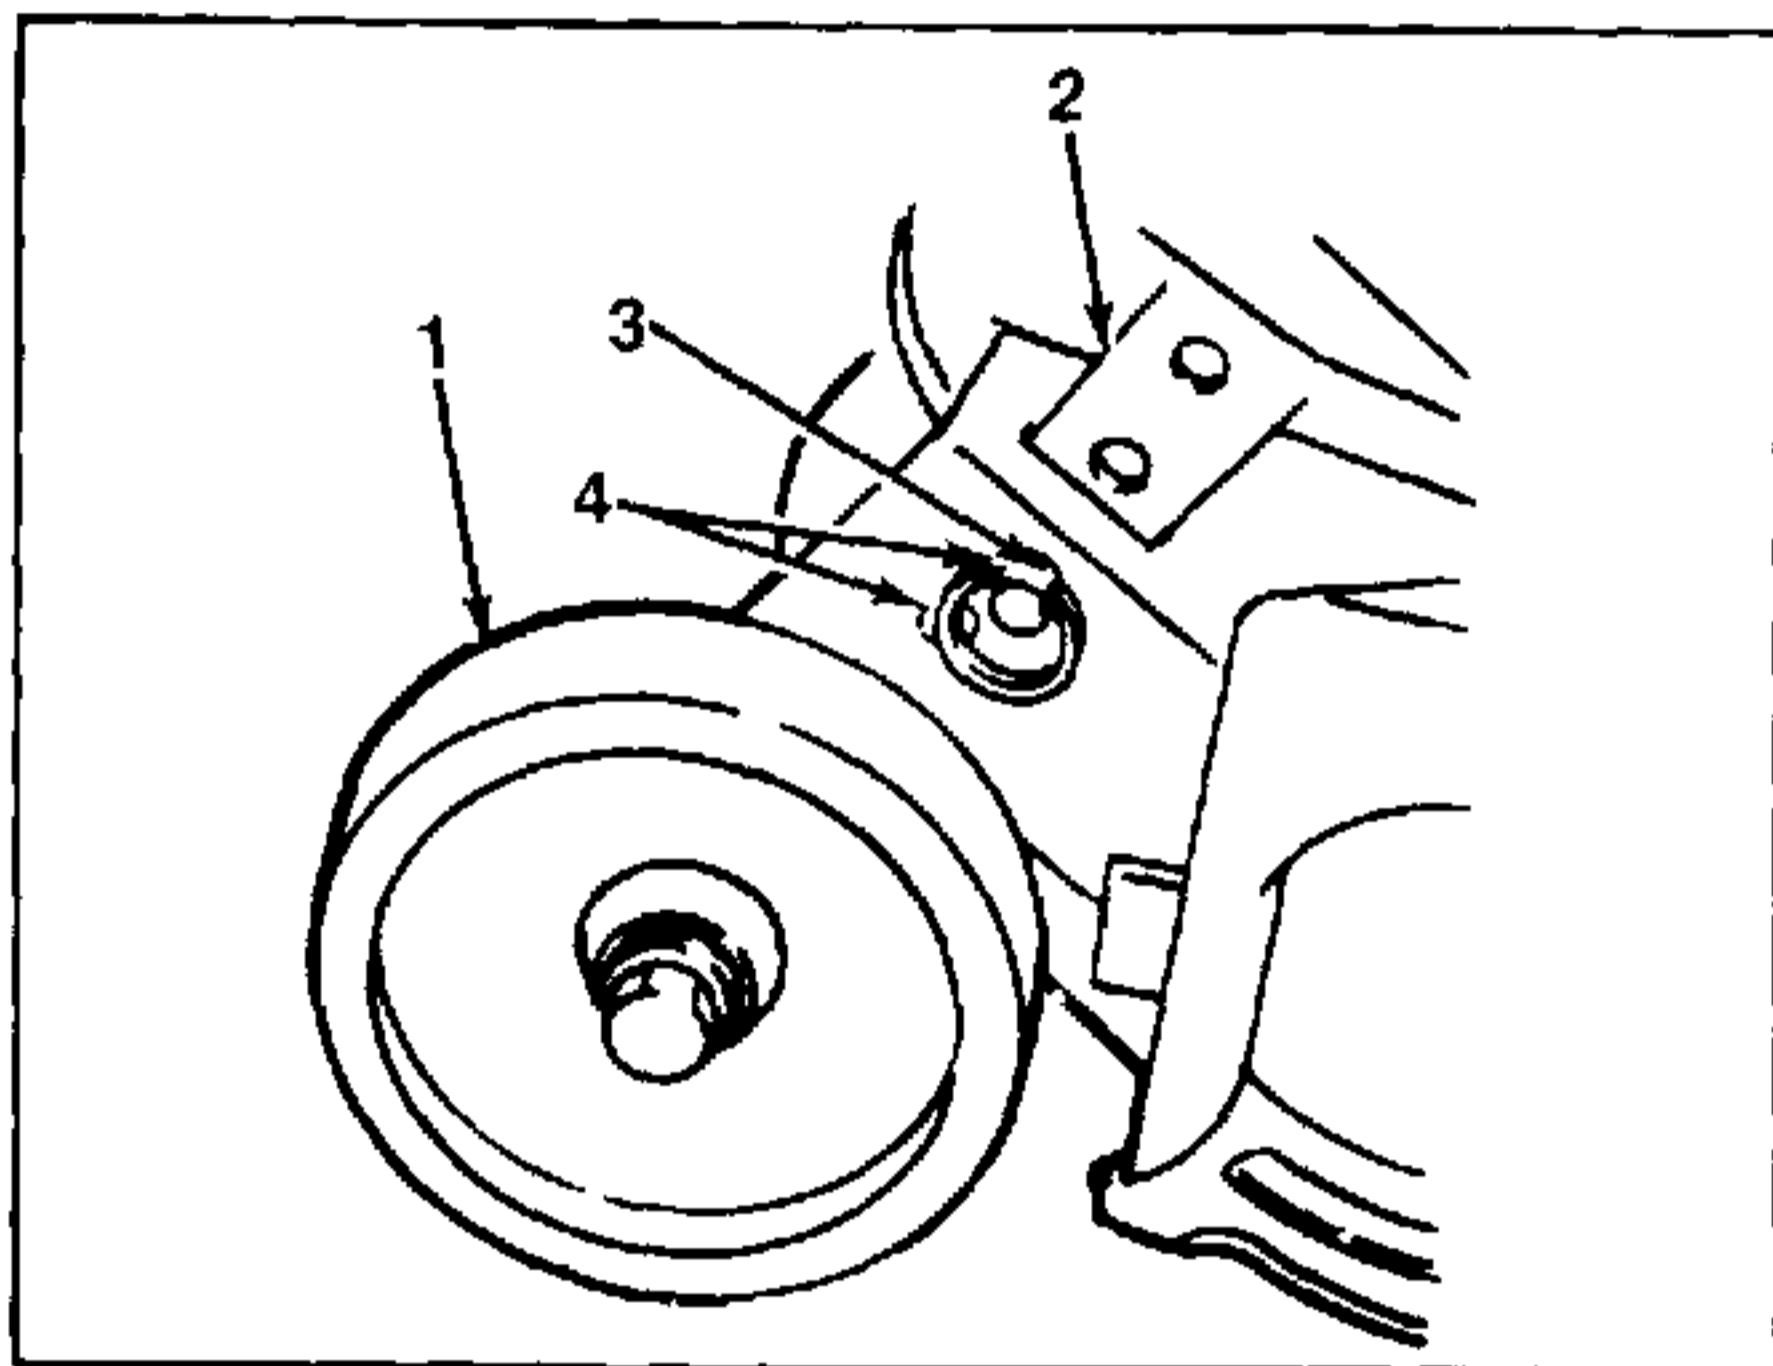

FIGURE 2.
3. Check that the gauge wheels are in the lowest position. Refer to figure 2. If wheel(s) are not in the lowest position, retract the quick release pin and place the wheel in the lowest position.